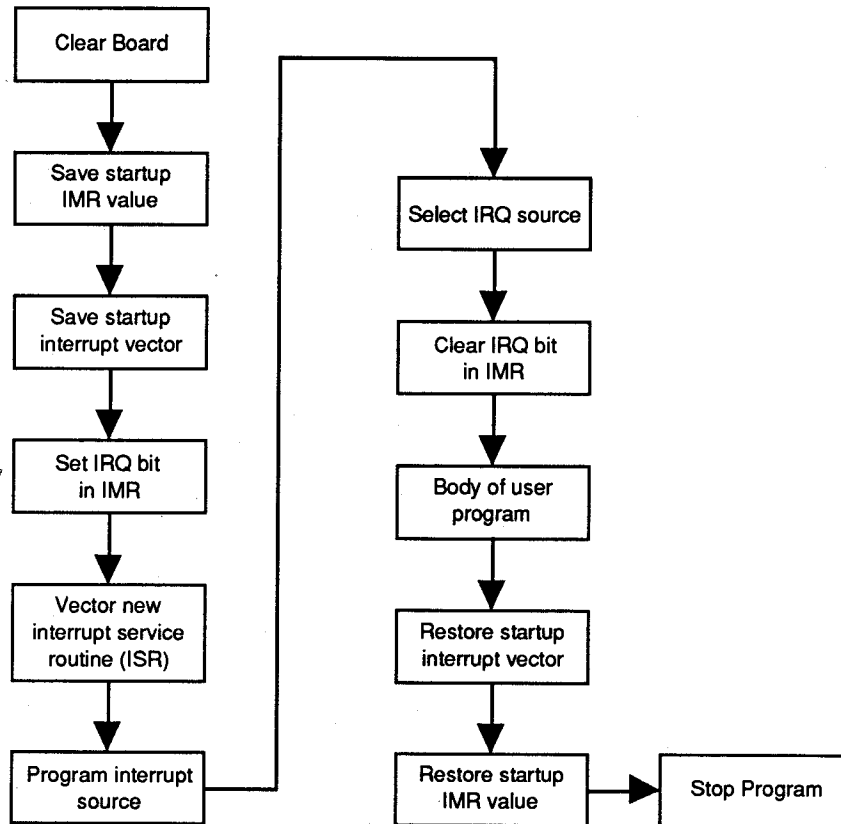

Fig. 4-6 — Interrupts Flow Diagram
• **Interrupts Flow Diagram (Figure 4-6)**